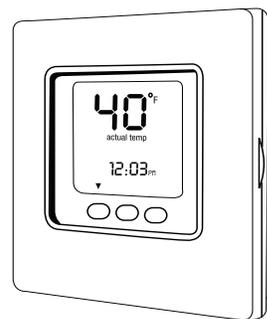

Fig. 7 – Lowest Temperature Setting
1. Set your room thermostat to the lowest temperature setting and set the "MODE" to "OFF" (see Fig. 7).